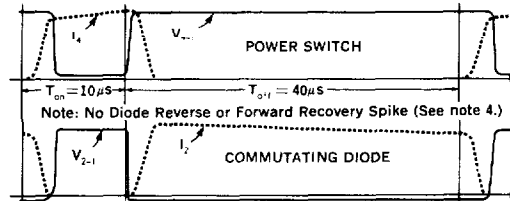

Figure 2. PIC625, 626, 627 Switching Waveforms
- No reverse recovery spike generated by commutating diode (See note 4. and Fig. 2.)
1. In switching an inductive load, the current will lead the voltage on turn-on and lag the voltage on turn-off (see Figure 2). Therefore, Voltage Delay Time (t_{dv}) $\approx t_{di} + t_{ri}$ and Current Storage Time (t_{si}) $\approx t_{sv} + t_{fv}$.
4. As can be seen from the switching waveforms shown in Figure 2, no reverse of forward recovery spike is generated by the commutating diode during switching! This reduces self-generated noise, since no current spike is fed through the switching regulator. It also improves efficiency and reliability, since the power switch only carries current during turn on.